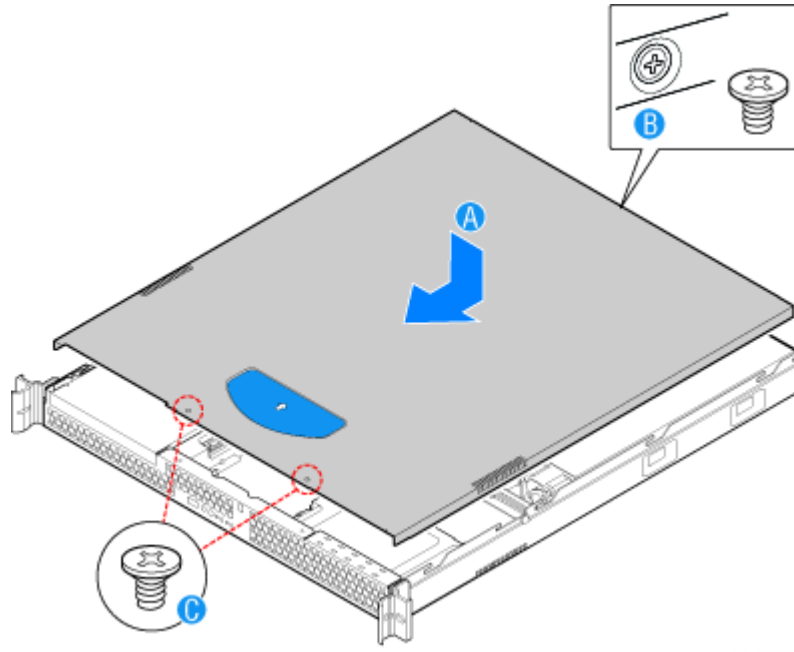

Figure 105: Installing the Server Cover
1. Place the cover over the server so that the side edges of the cover sit just inside the server sidewalls. Slide the cover forward. See letter “A” in Figure 105.
2. Tighten the screw at the rear of the server. See letter “B” in Figure 105.